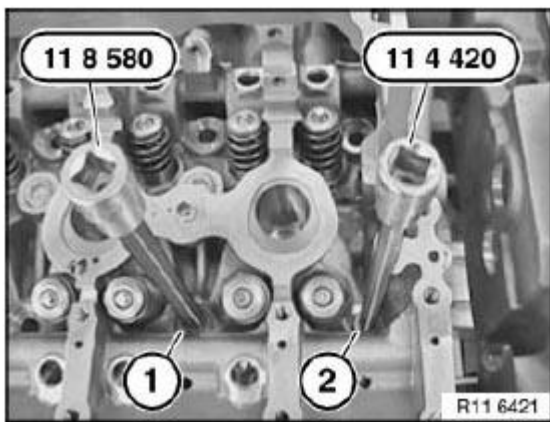

Fig. 43: Identifying Special Tools
M10 screw (1) is released with special tool 11 8 580. See **Fig. 43**.
M9 screw (2) is released with special tool 11 4 420. See **Fig. 43**